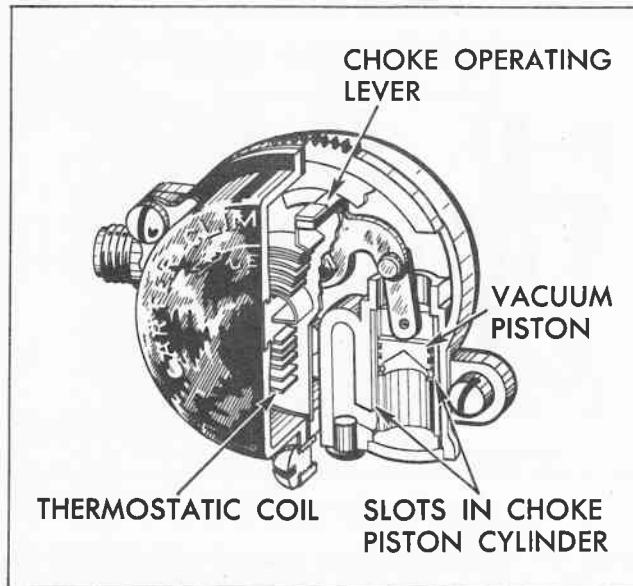

Fig. 8 Choke Housing Detail
When the engine starts, slots located in the sides of the choke piston cylinder (Fig. 8) are uncovered allowing intake manifold vacuum to draw warm air from the hot air tube, located in the exhaust crossover passage of the intake manifold, through the climatic (R) control housing. The flow of warm air in turn heats the thermostatic coil and causes it to lose some of its tension. The thermostatic coil loses its tension gradually until the choke valve reaches wide open position.